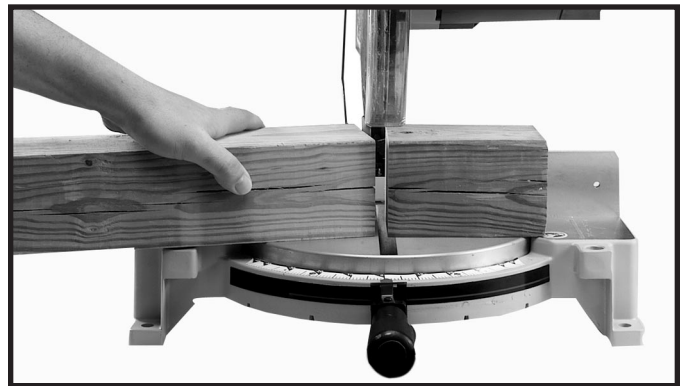

Fig. 33D
3. Cutting a standard 4 x 4 can be accomplished with one pass (Fig. 33D).